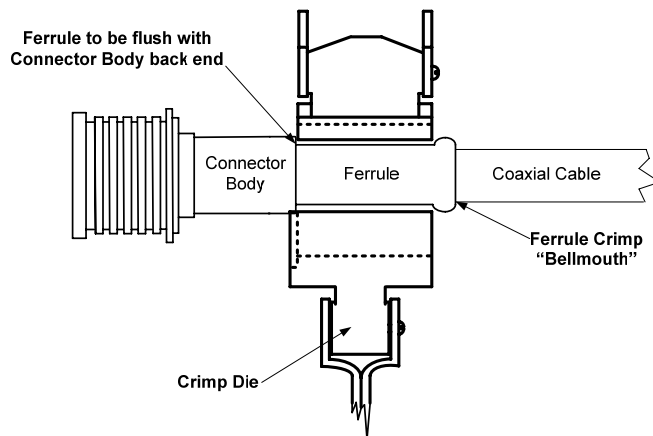

Figure 2-8. Ferrule and Crimp Die Positioning
5. Slide the crimp ferrule over the shielding braid to the back of the connector body. Position the crimp tool flush with the back of the connector body and crimp using Tyco tool 35940-1 and die assembly 220189-3, or Tyco tool 354940-1 and die assembly 91901-1, or Tyco tool 69478-1. The crimp tool should be positioned such that a "bellmouth" (see figure 2-8) is present in the crimp ferrule on the coaxial cable side of the crimp after crimping.